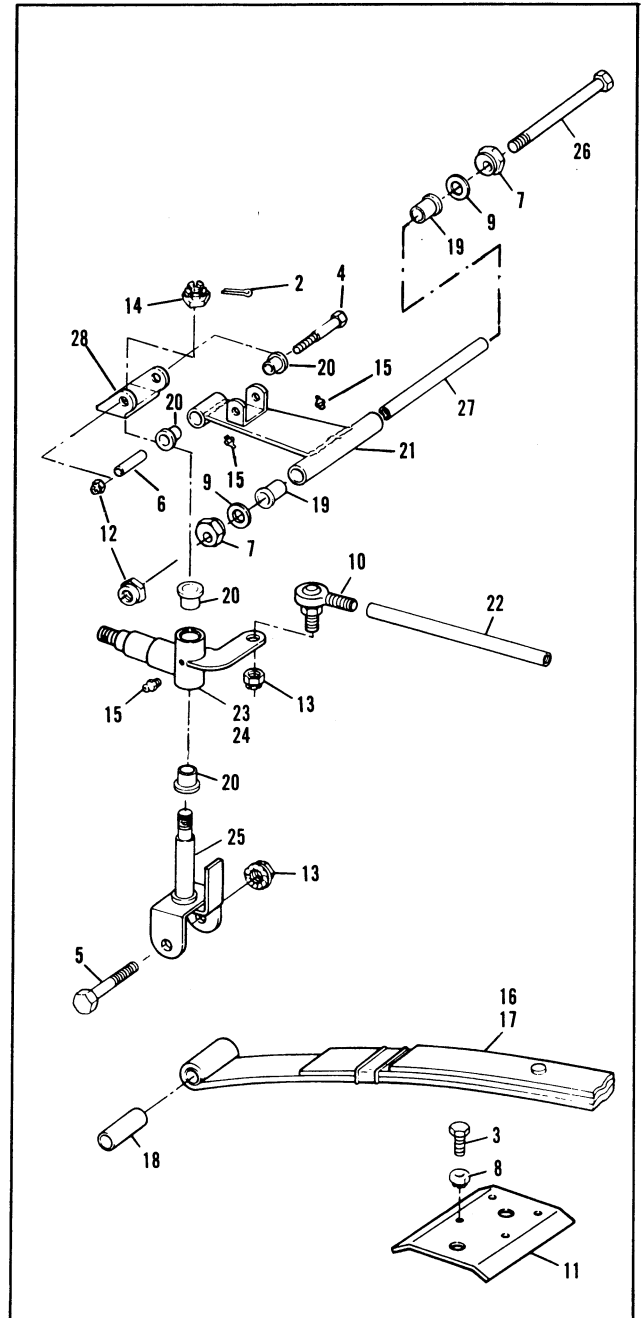

Figure 11 – Leaf Spring, King Pin, Steering Arm and A-Frame Removal
7. LEAF SPRING REMOVAL (Figure 11)
- Remove the nut (13) from the king pin mounting bolt (5).
- Pull bolt (5) from king pin.
- Remove four nuts (8) and bolts (3), retainer plate leaf spring (11).
- Check condition of sleeve (18) and replace if worn.
9. KING PIN OR STEERING ARM REMOVAL (Figure 11)
- b. Remove Nylock nut (14).
- c. Remove one nut (13) and bolt (5).
- d. Pull out king pin (25) to free it from leaf spring (16) and pull king pin down out of steering arm (23) and bracket (28). Note position of bronze bushings (20). These bushings must be replaced in the same position as removed.
- e. If king pin is worn or damaged, replace king pin and check condition of bushings (20).
- f. Remove locknut (2) and pull tie rod(s) as described in Paragraph 8 to remove steering arm.
10. A-ARM REMOVAL (Figure 11)
- b. Remove nut (12) and bolt (4).
- c. Remove nut (12) and bolt (26). Note position of thrust washers (9) and camber adjusters (7).
- d. A-arm (21) can now be removed from car.
- e. Check condition of spacers (19) and thrust washers (9) and replace if worn or damaged.